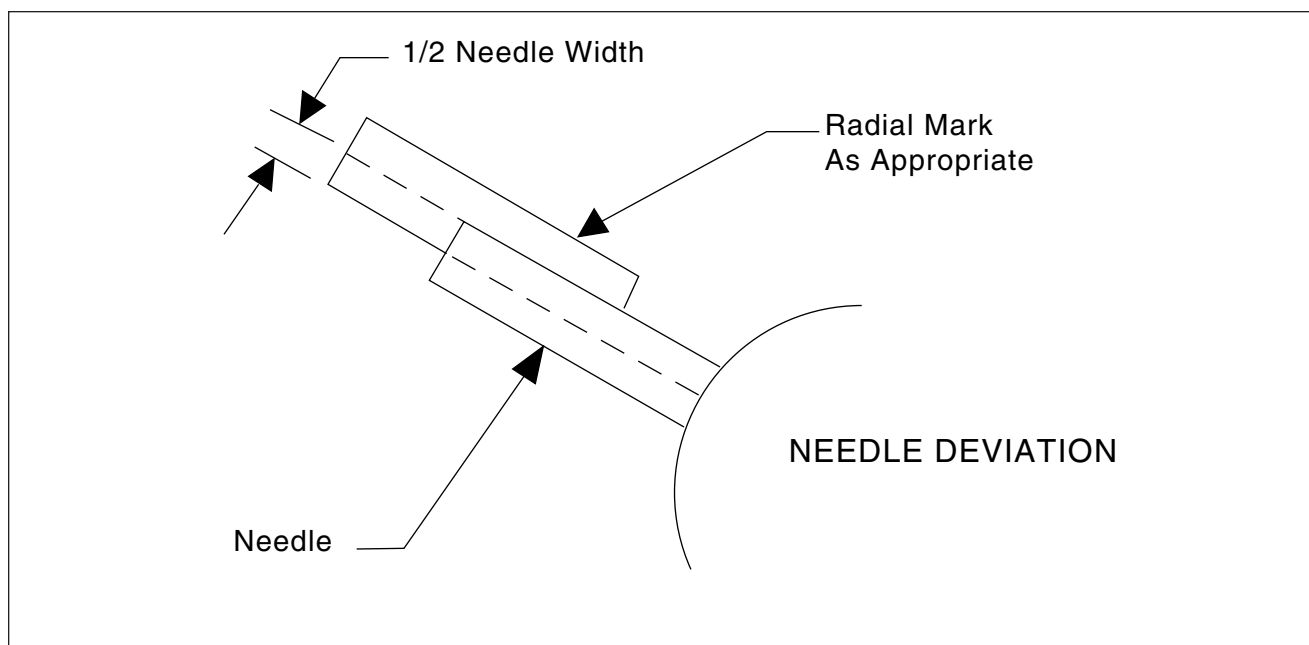
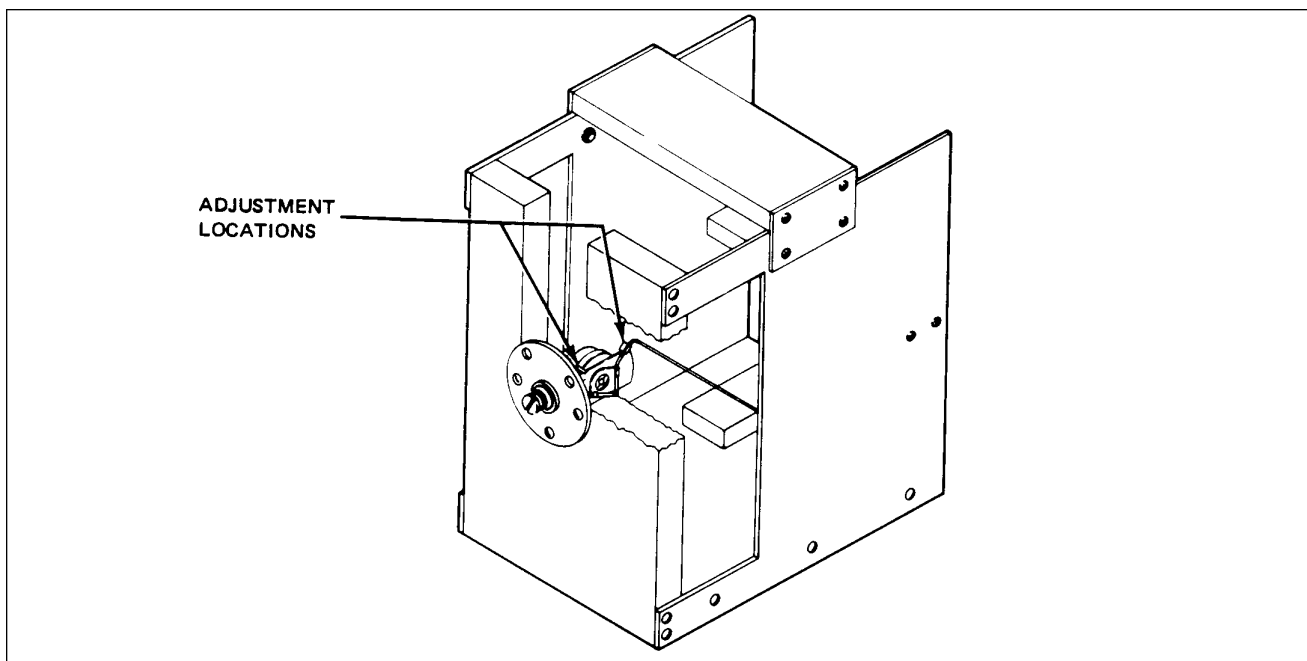

Figure 28-9. Archer III Fuel Quantity Needle Deviation
Figure 28-10. Fuel Quantity Transmitter Checking Jig
1. Archer II 14 Vdc Fuel Quantity Transmitter Check. (Piper P/N 486 520) (Refer to Figure 28-9.)
- (1) Fasten unit to a fabricated checking jig with washer and nuts. (Fabricate jig per Figure 28-10 dimensions.)
- (2) Check with the float arm down against mechanical stop on transmitter, the float is just touching base of jig. (Float may be to 0.18 inch above base.) If float does not touch the base or float arm is not against bottom stop, adjust float assembly arm stop by bending it per Figure 28-9. The entire surface of float must be horizontal with the jig base.
- (1) Fasten unit to a fabricated checking jig with washer and nuts as shown in Figure 28-9. (Fabricate jig per Figure 28-10 dimensions.)
- (2) Check with the float just touching the top of a 0.27 inch spacer back, the resistance of the sending unit is 3 ohms, ± 0.5 ohm. If the resistance of the sending unit is not in this range, adjust arm of the float assembly by **gently** bending it as shown in Figure 28-9. The entire float **must** be **kept horizontal** to the **base** of the fixture.